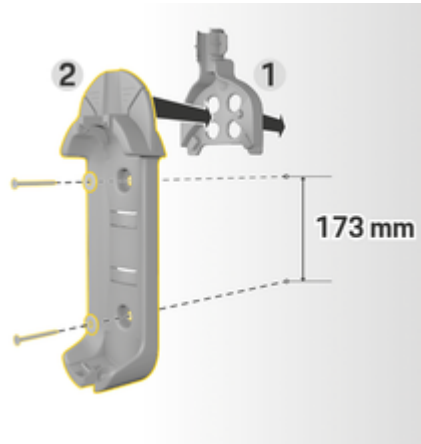

Fig. 8: Drilling dimensions
3. Press standard wall bracket 2 (Fig. 8) into cable guide 1 (Fig. 8) from the front.